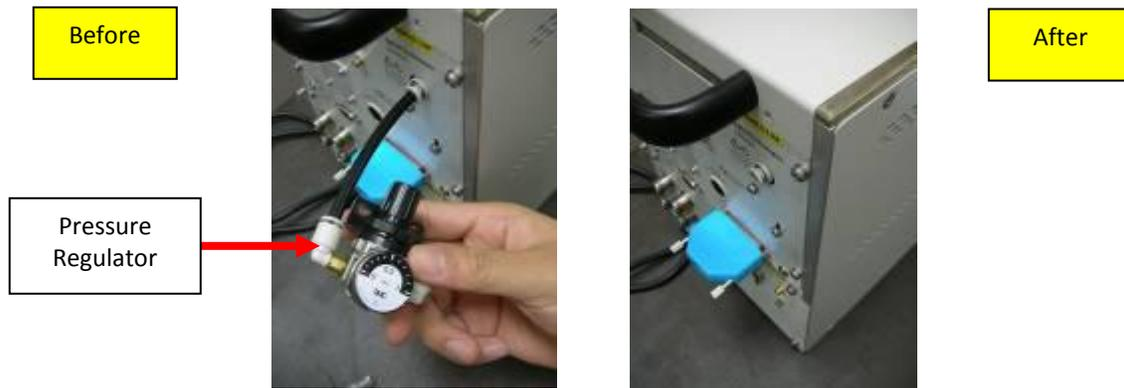

Figure 5: Disconnecting the pressure regulator from the fixture
5. Unplug the external Pressure Regulator [Brand: SMC, Manufacturing Part Number (MPN): AR10-M5BG] from the rear panel of the fixture as illustrated in Figure 5.